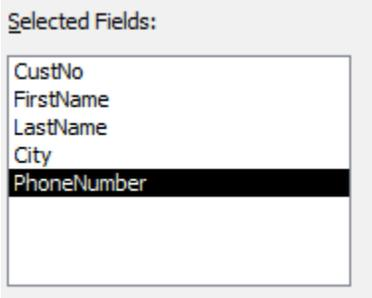

Figure 12: Fields Selected for the New Query
7. Select Fields to Include: Click the > button to move the fields shown in Figure 12 to the right. Select the fields shown in Figure 12 and click **Next**.